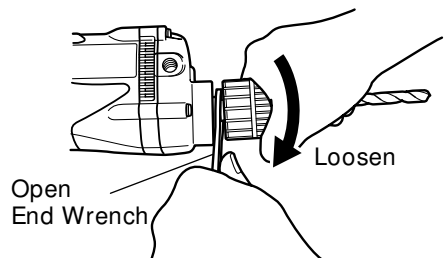

Fig. 4
- (2) Firmly grasp the ring and turn the sleeve in the clockwise direction. Tighten securely.
- (3) To remove the bit, firmly grasp the ring and turn the sleeve in the counterclockwise direction.
- (4) If it is hard to loosen the sleeve, fix the spindle using the open-end wrench, hold the sleeve firmly, and turn it in the loosening direction (counterclockwise when viewed from the front). (Fig. 4)